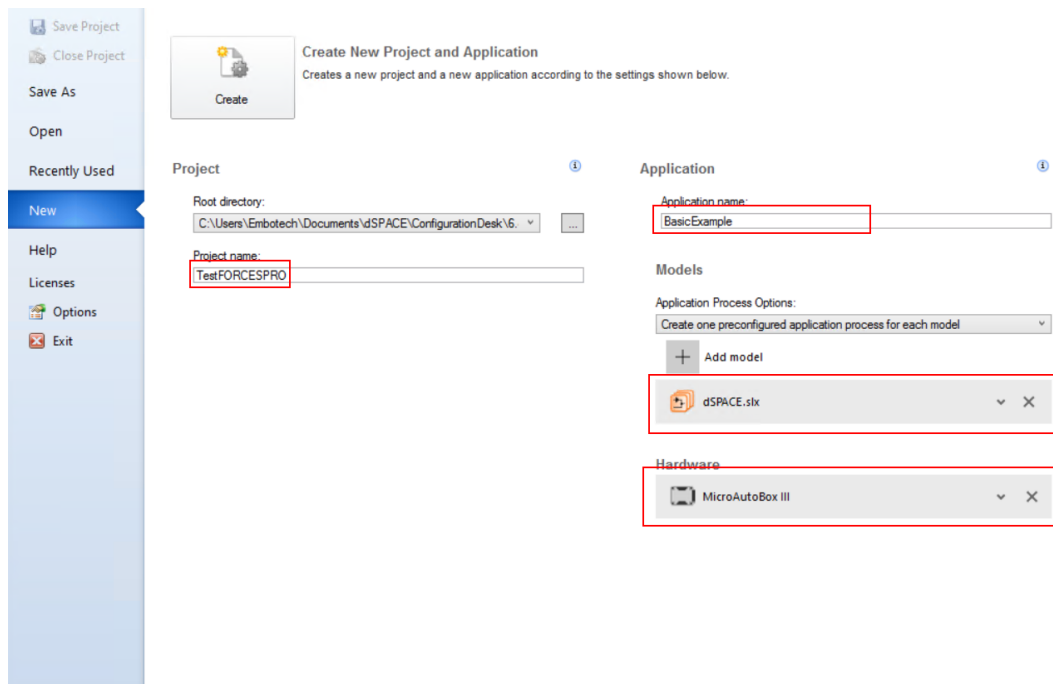

Figure 13.44: Create project and application in ConfigurationDesk.
- 15) Create a new Project and Application in ConfigurationDesk. Select directory of project, name of project and application, the model dSPACE.s1x as the application process and connected dSPACE platform to deploy to (see Figure 13.44).